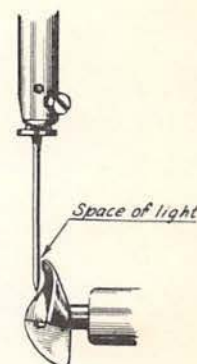

FIGURE 2A
- 4 There should be a space of light barely visible between the point of the Looper and the Needle as shown in Figure 2A. Adjust for proper clearance by loosening Screw D (Figure 3) and moving the Looper in or out the desired amount.
- 5 As a final setting, now that the Looper is properly timed in relation to the lift (or up stroke), the Needle Bar can be readjusted (as described in preceeding item 2) so that the point of the looper when passing the Needle is approximately $\frac{1}{32}$ of an inch above the Needle Eye.